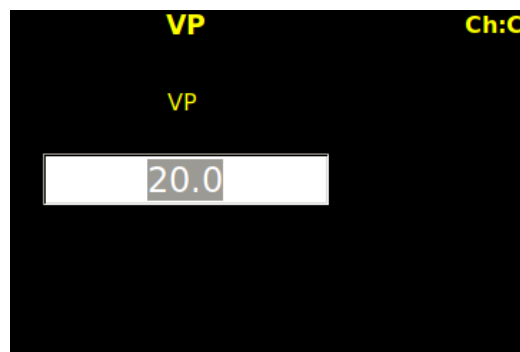

Figure 365: EVTM Embedded Transmitter Variable Power Selection
- VP - Scroll to the VP option to select the embedded transmitter power level. Click on VP to display the selection screen, as shown in Figure 365. A power value between 0.0 and 31.5 may be typed into the VP field, then press the Enter key on the front panel keypad.